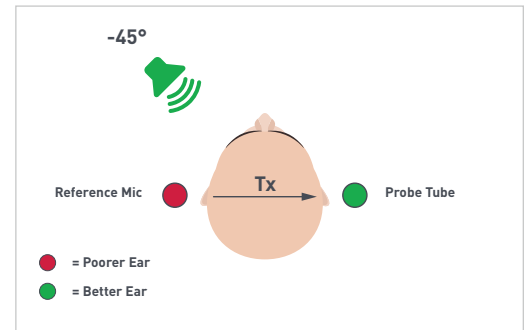

Figure 9
**Step Two:** Measure the response for the poorer ear: [Fig. 9]